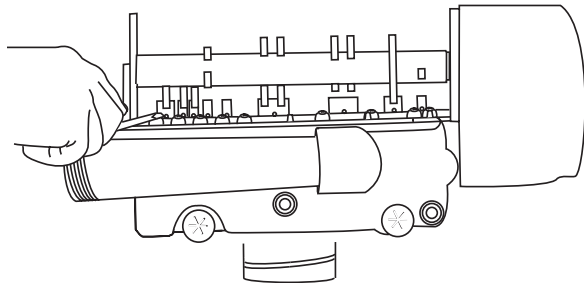

Figure 5.2
3. Remove cover and with screw driver, relieve tank pressure by pushing open valve No. 7 (rear flapper) on control as shown (Figure 5.2).